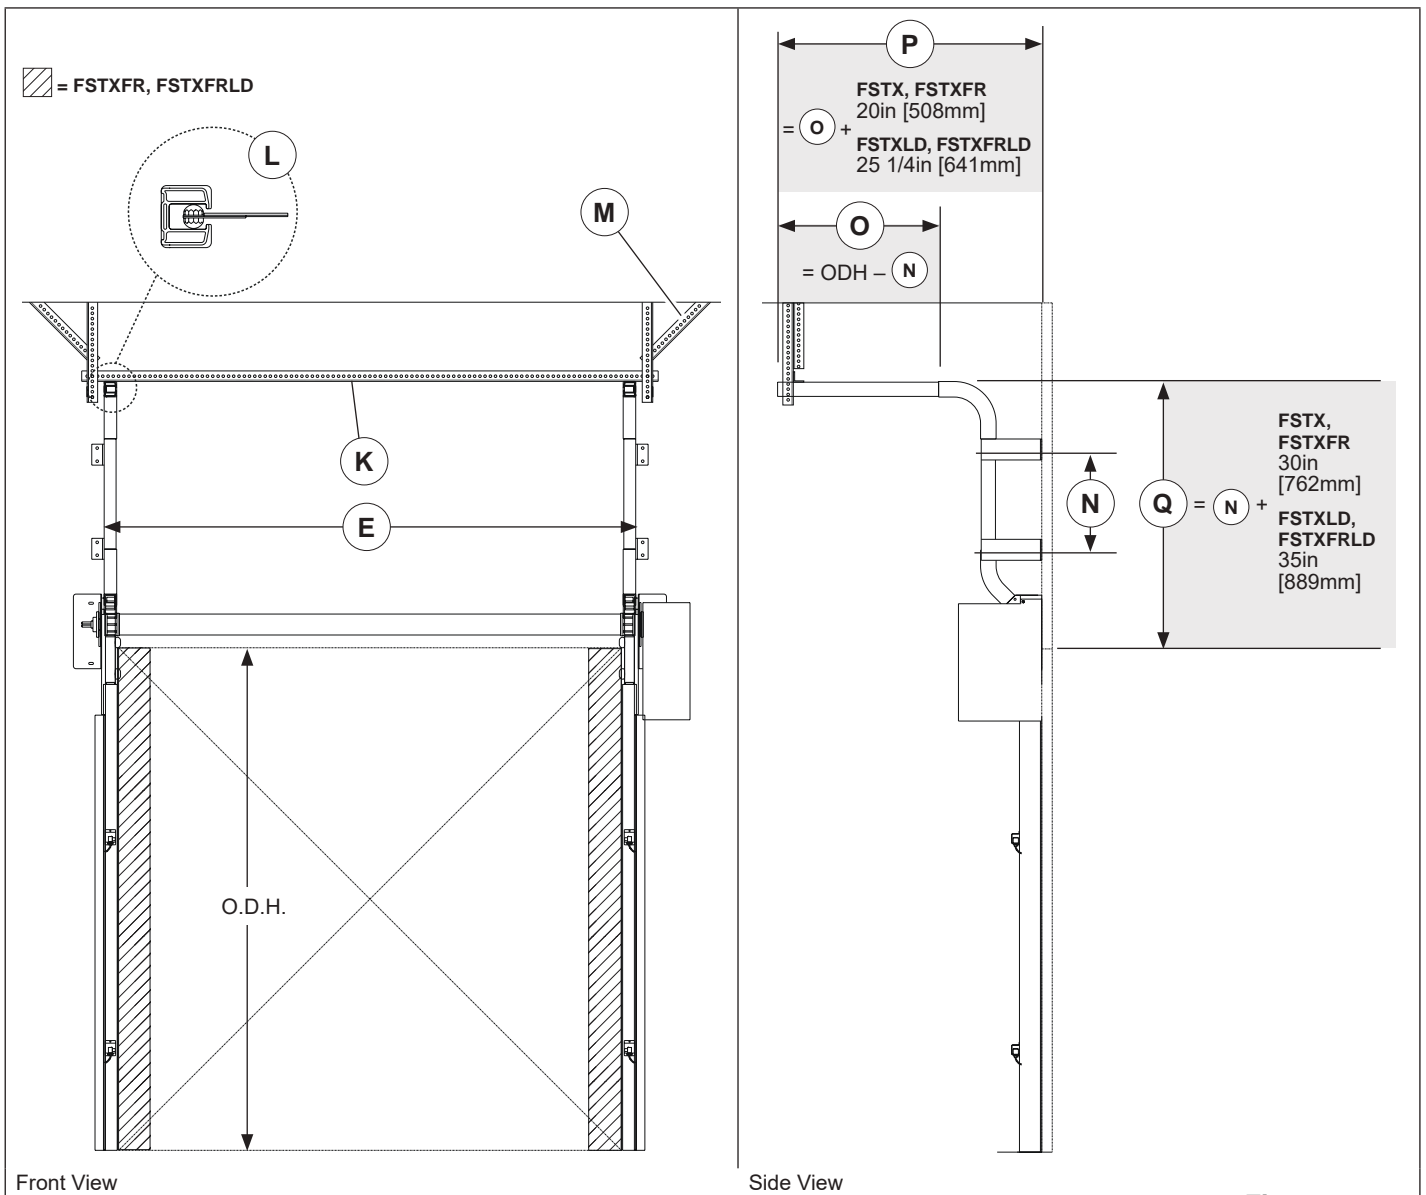

Figure 27
NOTE: If (N) is unknown, then Rite-Hite advises dimension to be a maximum of 1/2 O.D.H. (Figure 27).
10. **CRITICAL:** Fasten punched angle (K) (Figure 27) bracing at the end of the track, maintaining proper spacing.
11. When curtain is raised later in installation, make sure spheres are centered in track groove (L), if too tight, move tracks in, if too loose spread tracks apart.
12. Fasten bracing to diagonal (M) provide support from track to ceiling or wall.